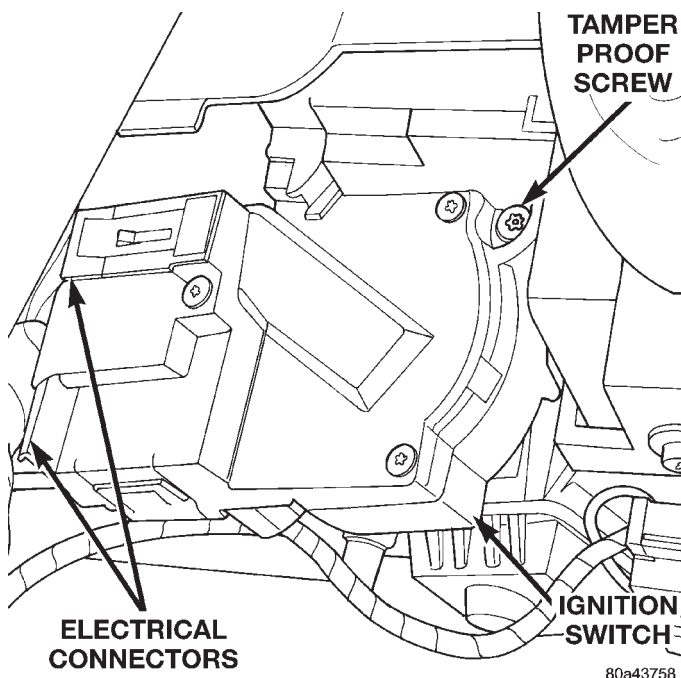

Fig. 46 Ignition Switch Removal/Installation
- (3) Disconnect two electrical connectors at rear of ignition switch (Fig. 46).
(4) Remove ignition switch mounting screw (Fig. 46). Use tamper proof torx bit (Snap-On® SDMTR10 or equivalent) to remove the screw.